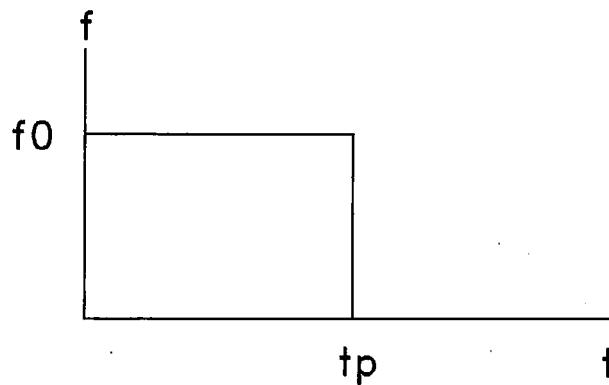

Fig Q4
4) Obtain the undamped transient response of a single degree of freedom spring mass system subjected to the rectangular pulse shown in fig Q4 using Duhamel's integral.